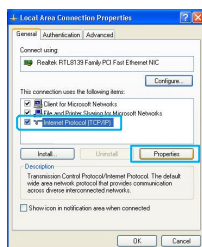

Figure 3
4. At the <Local Area Connection Properties> dialog box, select the **Internet Protocol (TCP/IP)** in the 'This connection uses the following items' list and click **Properties**. (Figure 3)